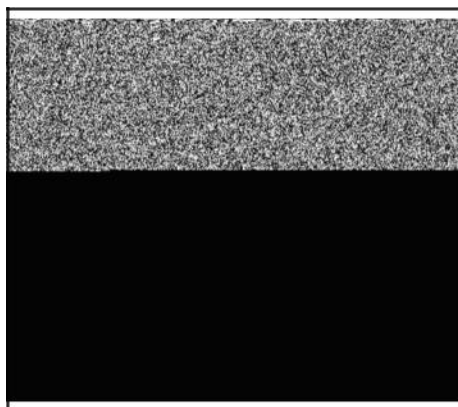

Figure 35
2. Remove starter motor from engine and mount to fixture (Figure 35).
3. Set meter to DC Amps position. Connect the black test lead (C), red test lead (D), starter motor, battery (E), and meter as shown in Figure 35.